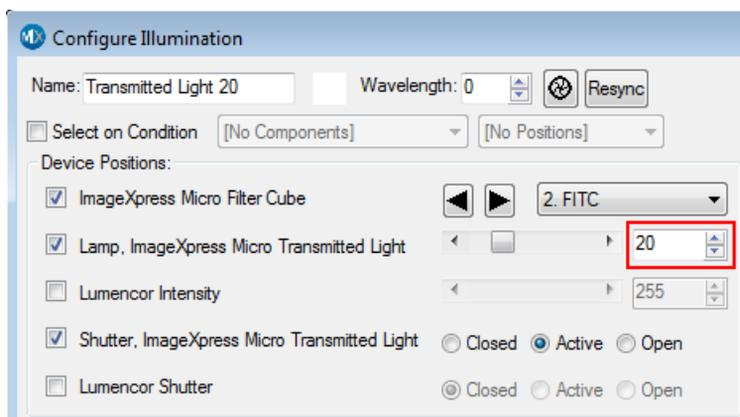

Figure 4-7: Configure Illumination dialog: Transmitted Light
3. Create an illumination setting named **Transmitted Light**, select **Lamp, ImageXpress Micro Transmitted Light**, and set lamp illumination as a percentage of full power, as shown in Figure 4-7.